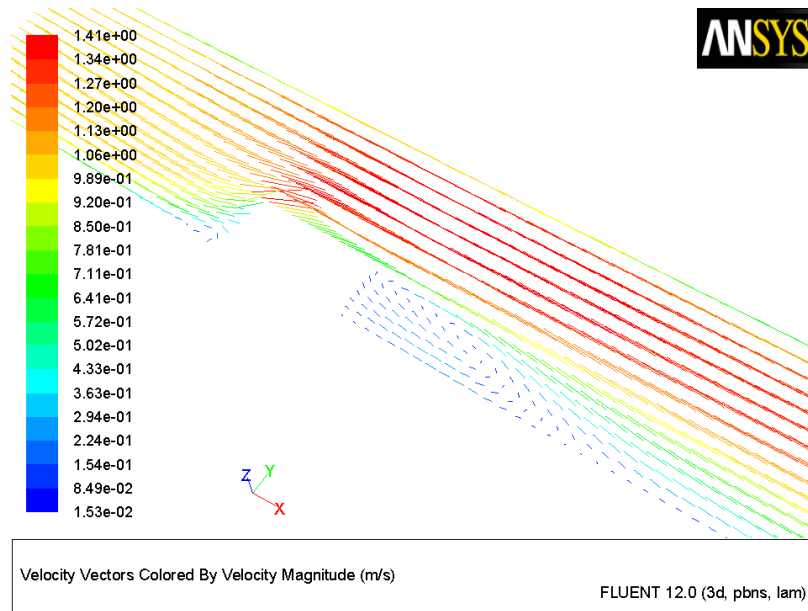

Figure 24.10: Velocity Vectors in the Module Symmetry Plane
1. Display velocity vectors on the symmetry plane through the module centerline (Figure 24.10).
- Rotate and zoom the display to observe the vortex near the stagnation point and in the wake of the module (Figure 24.10).
Note: The vectors in Figure 24.10 are shown without arrowheads. You can modify the arrow style in the **Vectors** dialog box by selecting a different option from the **Style** drop-down list.